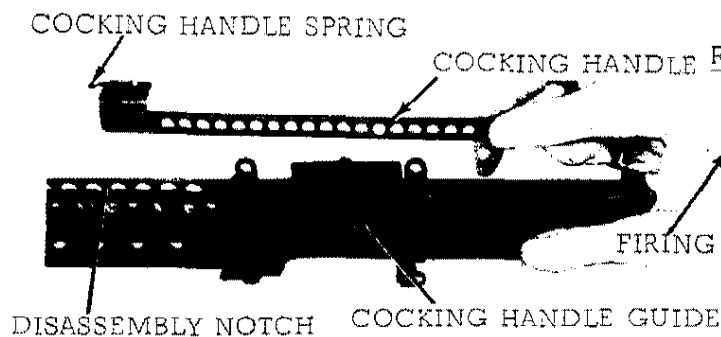

FIGURE 19. REMOVING COCKING HANDLE
(4) Pull back on the cocking handle until the cocking handle lug and disassembly notch are aligned with the rear disassembly notch (figure 19) on the receiver. The cocking handle may now be removed after pulling it away from the cocking handle guide on the receiver (figure 19) by pulling out and down on the handle.